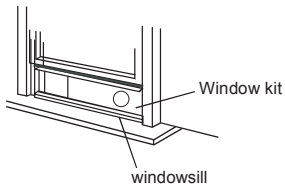

Fig. 10
3. Cut the foam seal (adhesive type) to the proper length and attach it on the top of the window kit. See Fig.10.